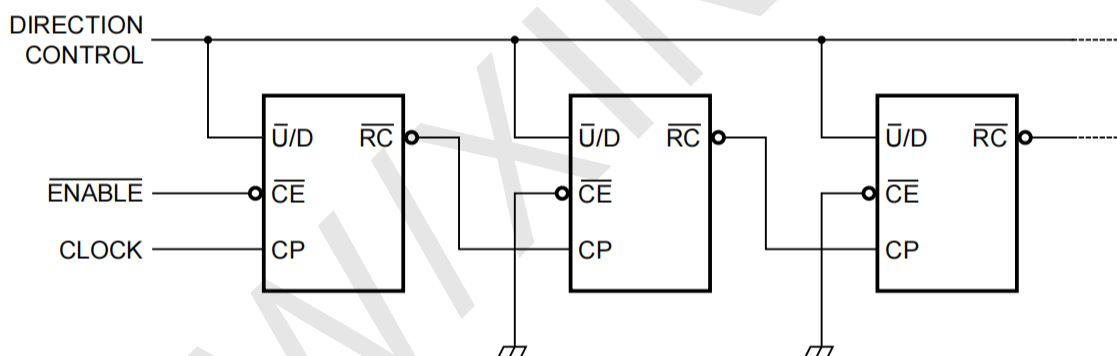
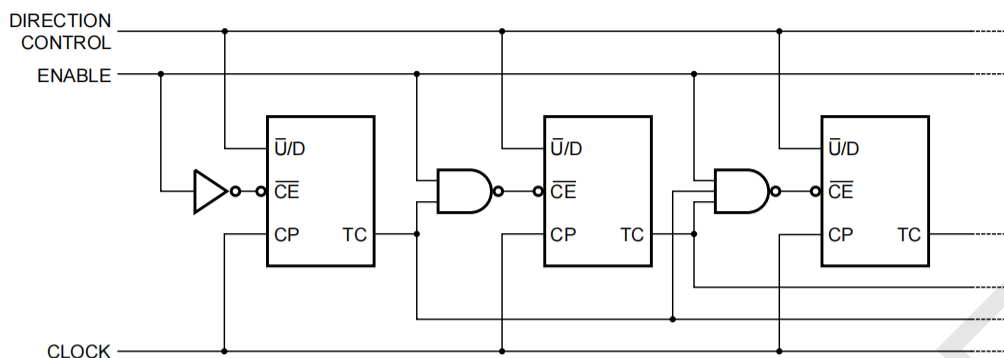

Figure 5. N-stage ripple counter using ripple clock
Figure 7. Synchronous n-stage counter with parallel gated carry/borrow
Counting is inhibited by a HIGH level on the count enable ($\overline{CE}$) input. When $\overline{CE}$ is LOW internal state changes are initiated synchronously by the LOW-to-HIGH transition of the clock input. The up/down ($\overline{U}/D$) input signal determines the direction of counting as indicated in the function table. The $\overline{CE}$ input may go LOW when the clock is in either state, however, the LOW-to-HIGH $\overline{CE}$ transition must occur only when the clock is HIGH. Also, the $\overline{U}/D$ input should be changed only when either $\overline{CE}$ or CP is HIGH. Overflow/underflow indications are provided by two types of outputs, the terminal count (TC) and ripple clock ($\overline{RC}$). The TC output is normally LOW and goes HIGH when a circuit reaches zero in the count-down mode or reaches "9" in the count-up-mode. The TC output will remain HIGH until a state change occurs, either by counting or presetting, or until $\overline{U}/D$ is changed. Do not use the TC output as a clock signal because it is subject to decoding spikes. The TC signal is used internally to enable the $\overline{RC}$ output. When TC is HIGH and $\overline{CE}$ is LOW, the $\overline{RC}$ output follows the clock pulse (CP). This feature simplifies the design of multistage counters as shown in Figure 5 and 6.
In Figure 5, each $\overline{RC}$ output is used as the clock input to the next higher stage. It is only necessary to inhibit the first stage to prevent counting in all stages, since a HIGH on $\overline{CE}$ inhibits the $\overline{RC}$ output pulse as indicated in the function table. The timing skew between state changes in the first and last stages is represented by the cumulative delay of the clock as it ripples through the preceding stages. This can be a disadvantage of this configuration in some applications.
In Figure 7, the configuration shown avoids ripple delays and their associated restrictions. Combining the TC signals from all the preceding stages forms the $\overline{CE}$ input for a given stage. An enable must be included in each carry gate in order to inhibit counting. The TC output of a given stage is not affected by its own $\overline{CE}$ signal therefore the simple inhibit scheme of Figure 5 and 6 does not apply.